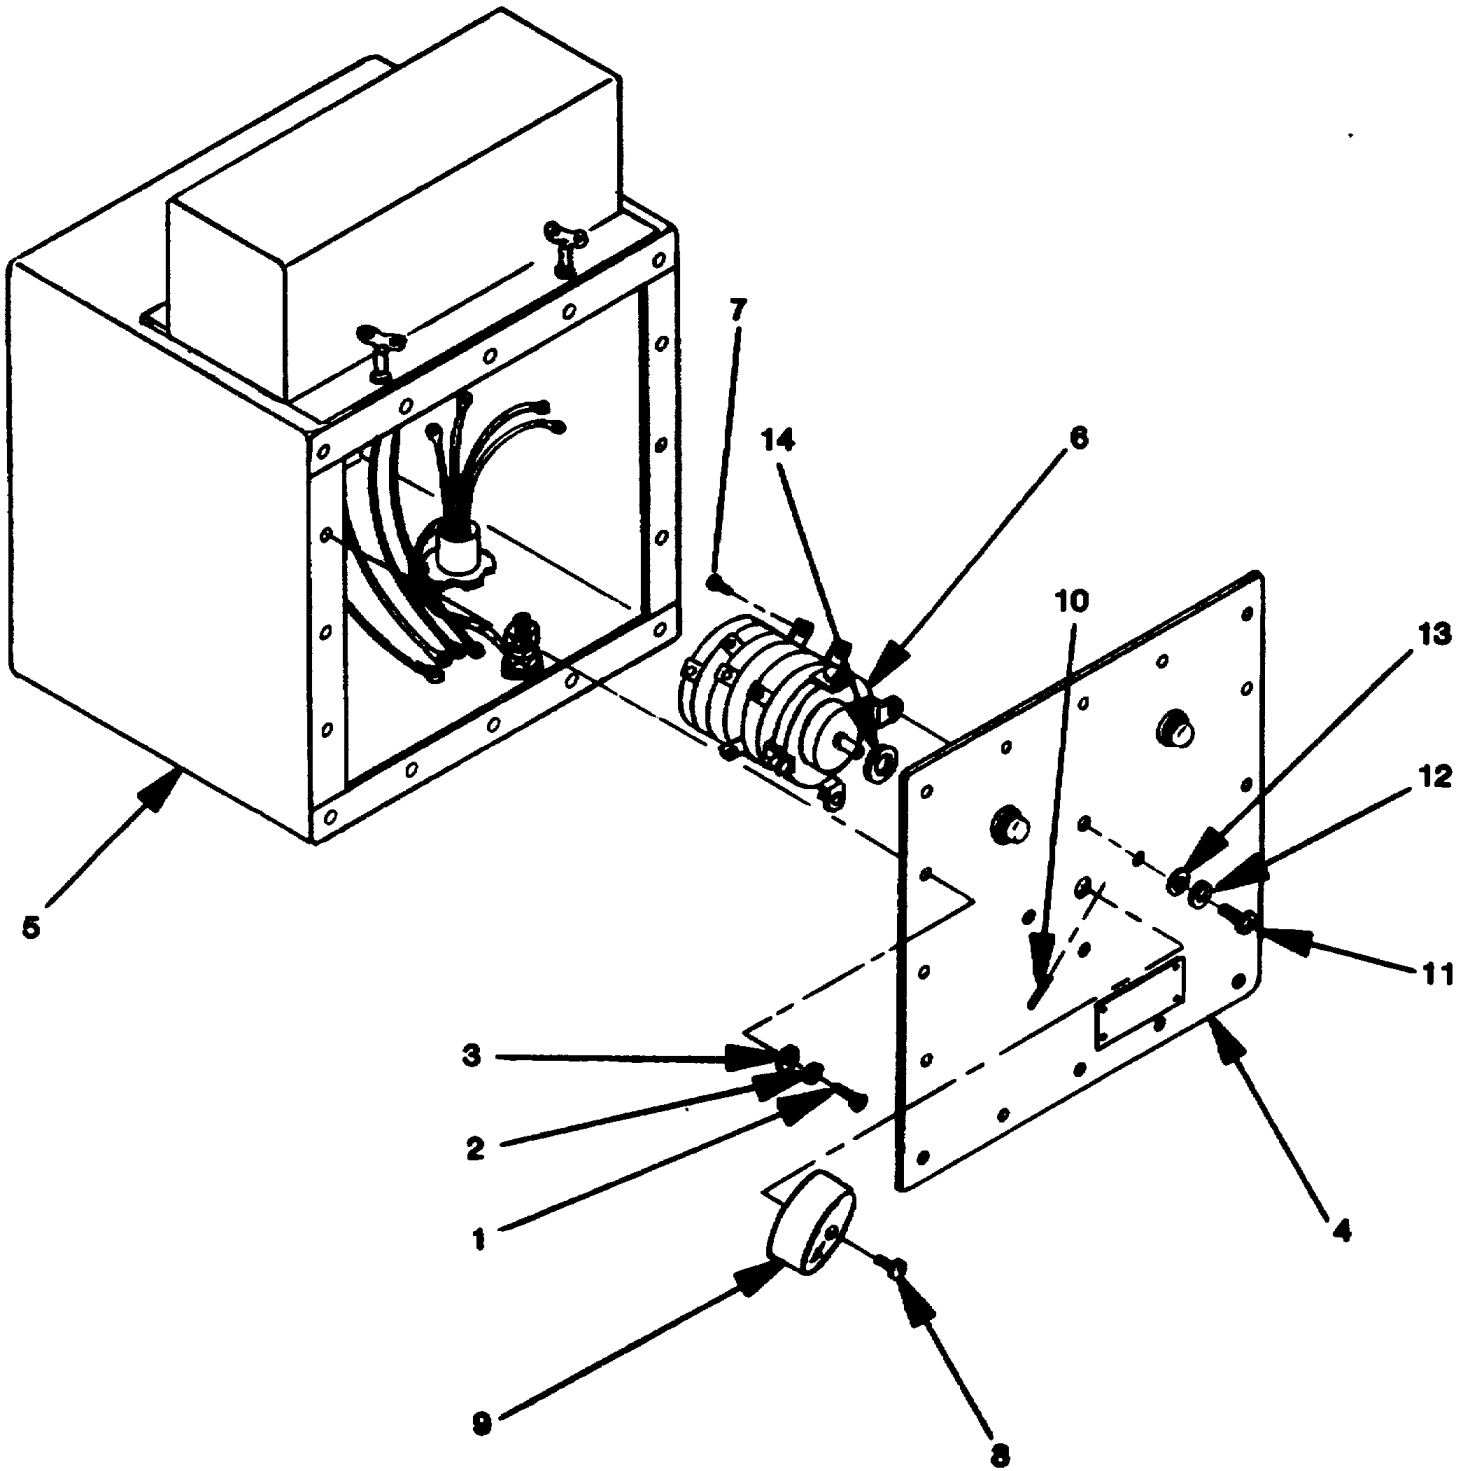

Figure 5-3. Switch Box Switch Replacement.
- (1) Remove 16 screws (1, figure 5-3), lockwashers (2) and flat washers (3) securing cover (4) to switch box (5) and pull cover away from switch box.